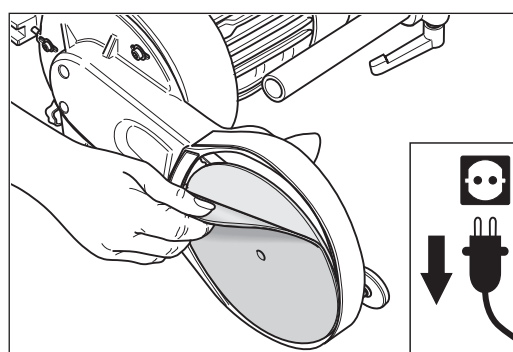

Fig. 45 Simply pull off the worn-out Velcro sanding disc.
- 4 Pull off the worn-out Velcro sanding disc from the sanding disc wheel (Fig. 45).